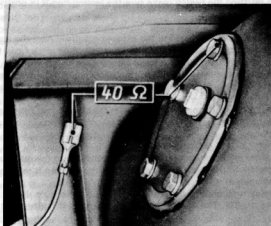

Fig. 10.35. Method of testing fuel sender unit using a 40 Ohm resistor (Sec. 38)
- 1 To check the fuel tank sender unit for correct operation, obtain a 40 ohm resistor from a radio dealer and connect it between the sender unit wire and earth (see Fig. 10.35).